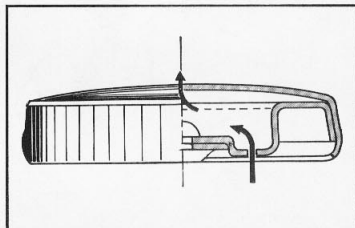

Figure 6-16. Fuel tank cap cross section (C65, C65M)
- ① The insufficient fuel flow may be caused by the plugged vent hole in the filler cap as well as the restriction in the fuel line. (Fig. 6-16, 6-17)
- ② The fuel cock is switched to RES (reserve) from the ON position when the fuel tank becomes empty. The reserve fuel supply contains approximately 0.8 ℓ (1.7 U.S. pt) for the C50, C50M, C65, C65M and approximately 1 ℓ (2.1 U.S. pt) for the S50 and S65, sufficient to travel approximately 50 km (31 mi) and 60 km (37 mi) respectively.